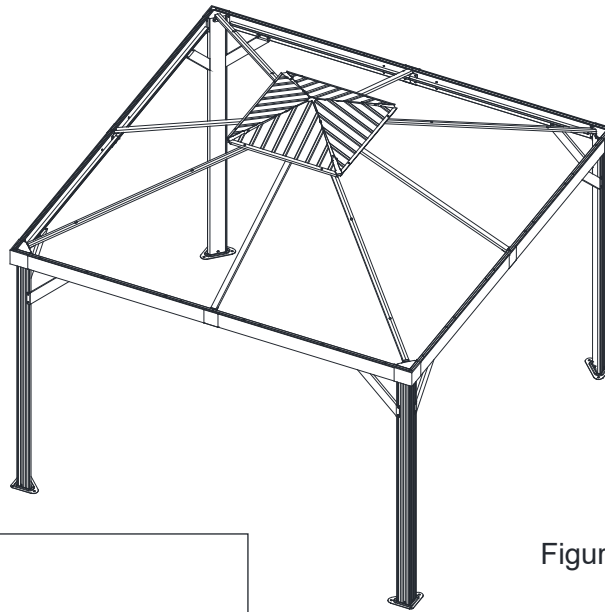

Figure 11-3
11.3: Attach the Roof Vent Side Trim - (R2) to the Sides of Roof Vent Frame (P1) using Bolts (AA) and Steel washer (AA-1). Repeat for all sides. Tighten all Bolts, See Figure 11-3.